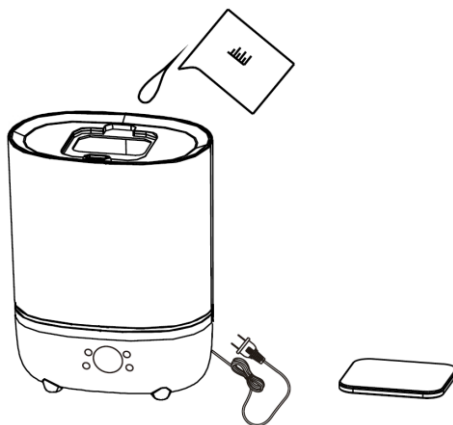

Fig. 3
2. Remove the water filling cap and pour the water inside the water tank (fig. 3)